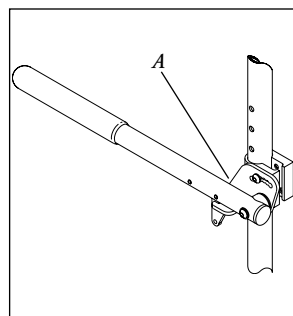

Figure 4
D. ADJUSTABLE-LOCKING FLIP-UP ARMRESTS (FIG. 4) (OPTIONAL WITH DEPTH-ADJUSTABLE BACK ONLY)**1. Adjustment**
- Set armrest at desired angle using preset holes in armrest angle plate (A).